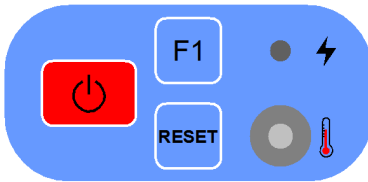

Figure 1: Keypad of VM100A
On the upper side of the case you will find a small keypad with the power button, the reset button and a function key. The VM100A also has an infrared temperature sensor here. (Figures 1 and 2). The charge LED lights up red when connected to a USB charger or PC.
The VM100 is switched on by briefly pressing the red key on the side keypad (Figures 1 and 2). It always starts with the last selected settings and is immediately ready for use in measuring mode. If the battery is completely discharged, it may be necessary to connect a charger to start it.
- The menu bar shows the date and time. In the VM100A, you can see the measured temperature of the built-in infrared sensor below it (Figure 1).
If a USB supply is connected, the red charging LED lights up (Figures 1 and 2).